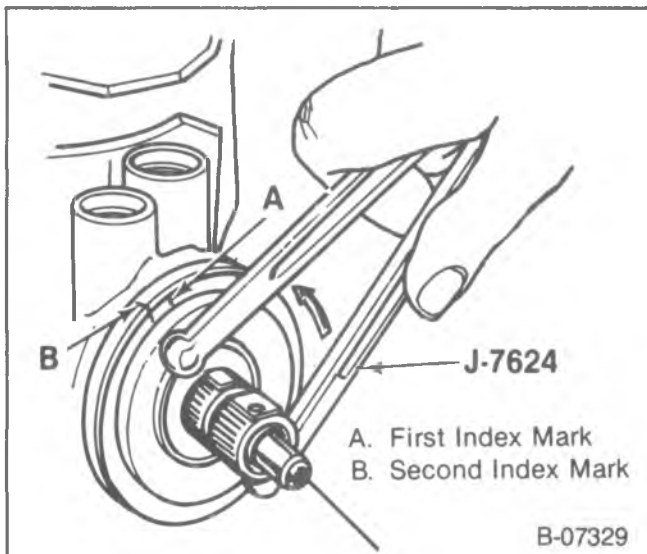

Figure 16—Aligning the Adjuster Plug to the Second Mark
5. Rotate the adjuster plug back (counterclockwise) until the hole in the plug is aligned with the second mark on the housing (figure 16).
6. Install the adjuster plug nut (6).